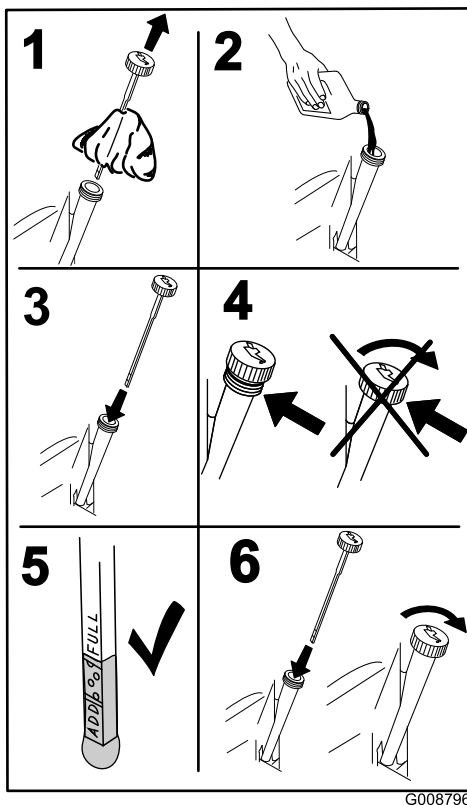

Figure 38
4. Remove the dipstick and wipe it with a clean cloth (Figure 38).